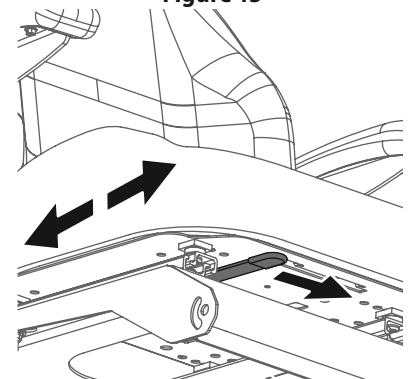

Figure 16
3. Release the adjustment lever. Ensure seat is locked into position before operation. See Figure 16.